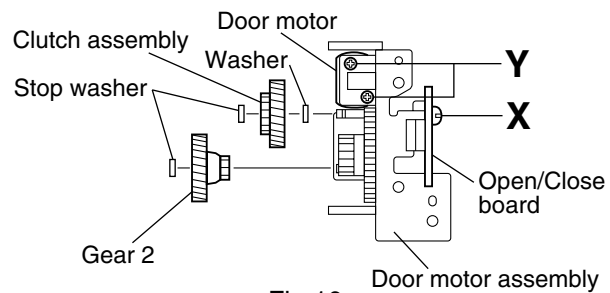

Fig.16
■ Removing the door motor (See Fig. 16.)